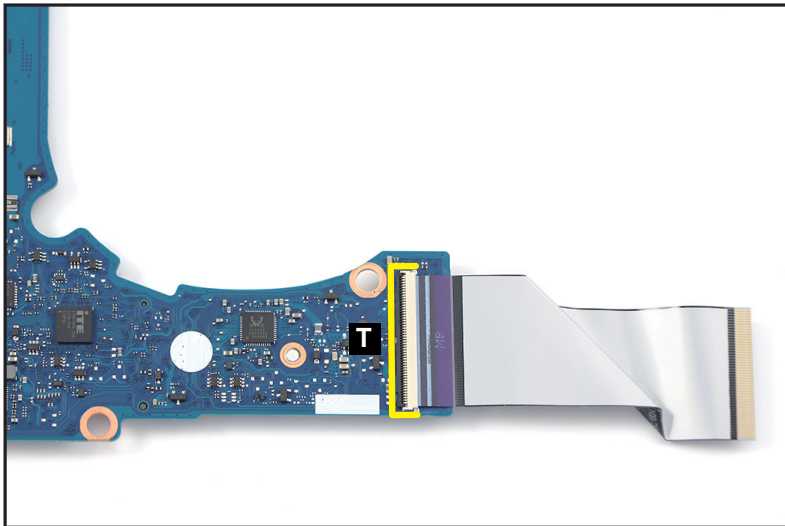

Figure 1-61. Mainboard Removal
18. Disconnect the other end of the LTE board FFC from the mainboard connector (T) (Figure 1-61). Remove the FFC.